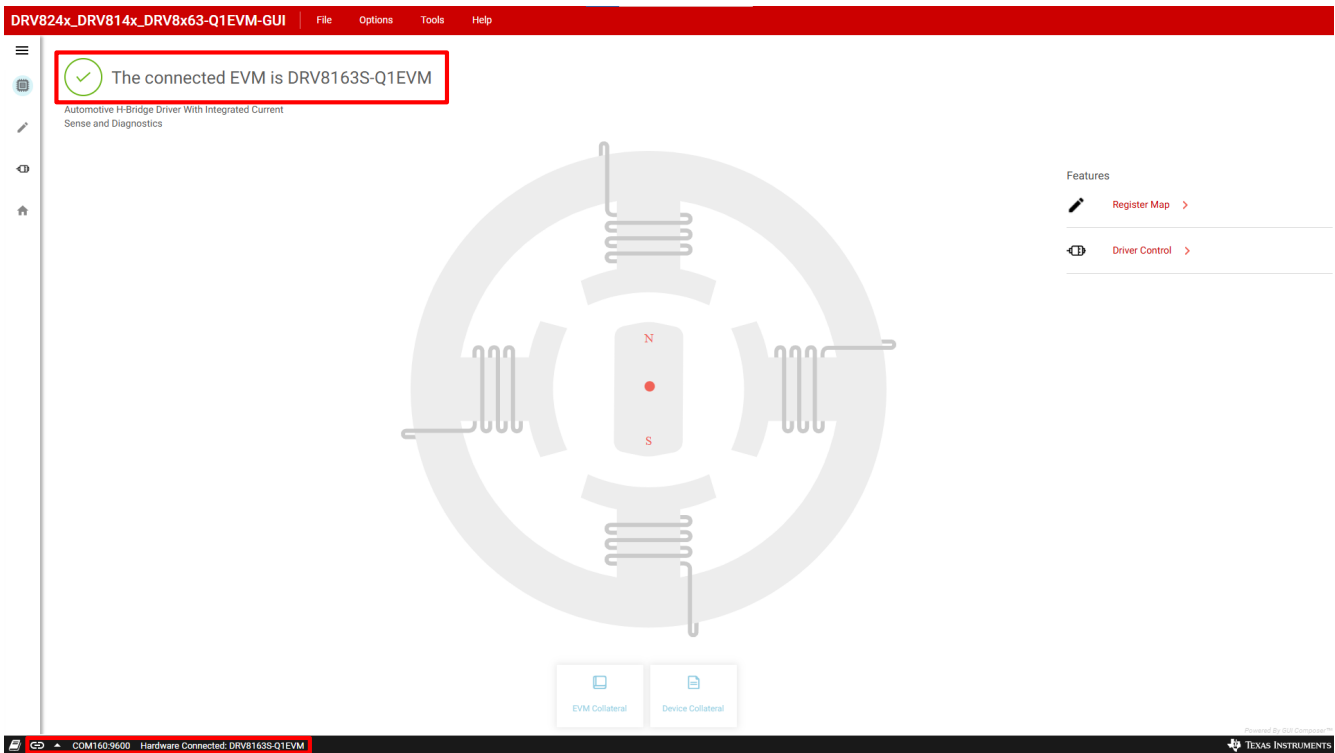

Figure 4-2. Successful EVM Connection
- After clicking the correct EVM type, the GUI application initiates communications with the EVM. Connection confirmation is displayed as shown below in Figure 4-2: